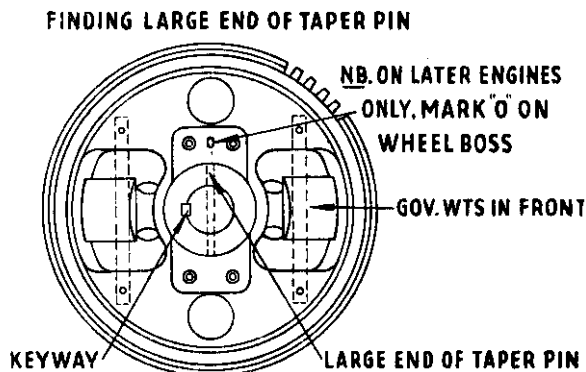

Fig. 3
- i. Ascertain which is the smaller end of the taper pin. Reference to Fig. 3 will make this clear. **ALL GEARWHEELS** on these engines are drilled and pinned with the keyway on the left hand with the wheel boss facing front. This applies whether the pin is at right angles to the key, or at a tangent as in the case of some marine types.
- xii. Set the camshaft up on drill table with keyway on L.H. side (see Fig. 3) and the scribed line (note x) set vertical.